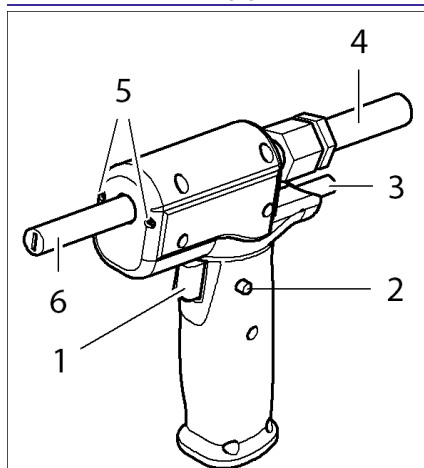

Fig. 4: Controls and connections on the blasting gun
- Screw the nozzle into the blasting gun (item 6 in Fig. 4).